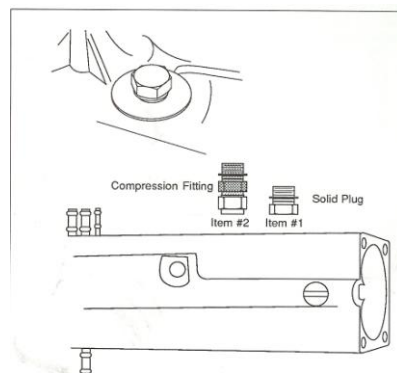

Figure 4
10. On Non-EGR applications, use this plug (Figure 4)
(Refer to Figure 4 page 10)